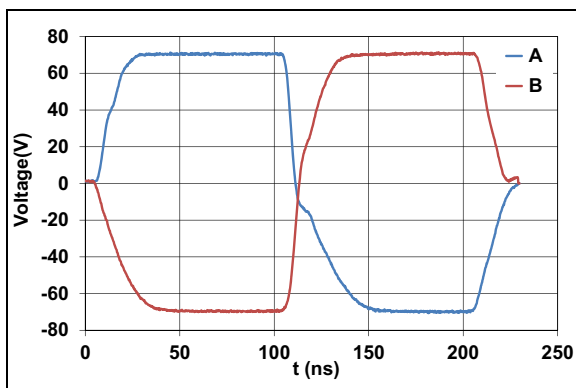
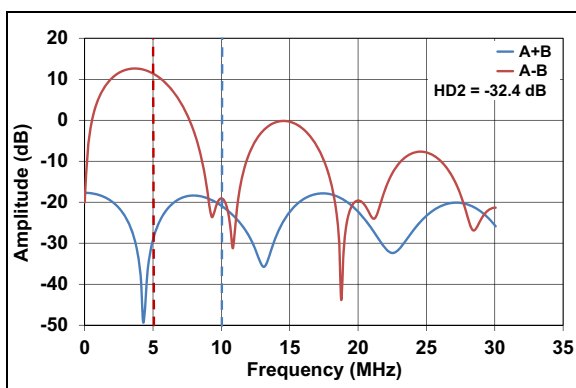

FIGURE 5: Competitor TX Output Waveform, 1-Cycle, 5 MHz with 270 pF//100 Ω Load.
FIGURE 6: Competitor TX Output Spectrum, 1-Cycle, 5 MHz with 270 pF//100 Ω Load.
Figure 5 shows the measurement of one cycle of $\pm 70\text{V}$ 5 MHz signal (A) and its inversion (B) from channel-0 of a competitor's pulser. Figure 6 shows the frequency spectrum of A-B and A+B. HD2 is measured as -32.4 dB.